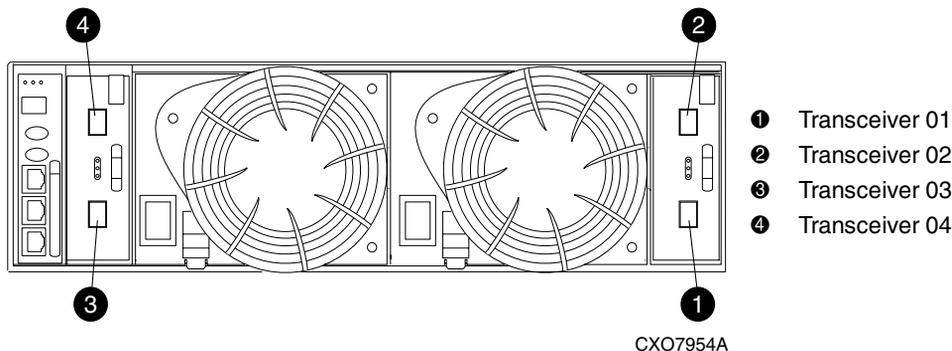

Figure B-4: Transceiver element numbering
- *en.* is the two-character transceiver element number (see Figure B-4)